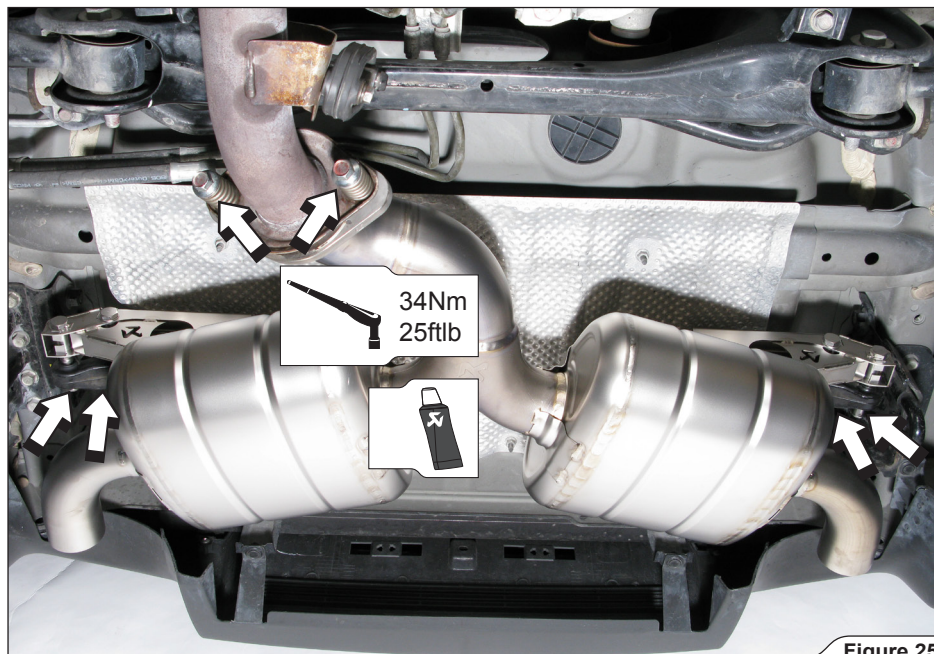

Figure 25
14. **For Slip-On only:** hang the mufflers on the stock rubber brackets and attach the stock middle pipe and mufflers' inlet pipe, using stock bolts and springs (**Figure 25**).